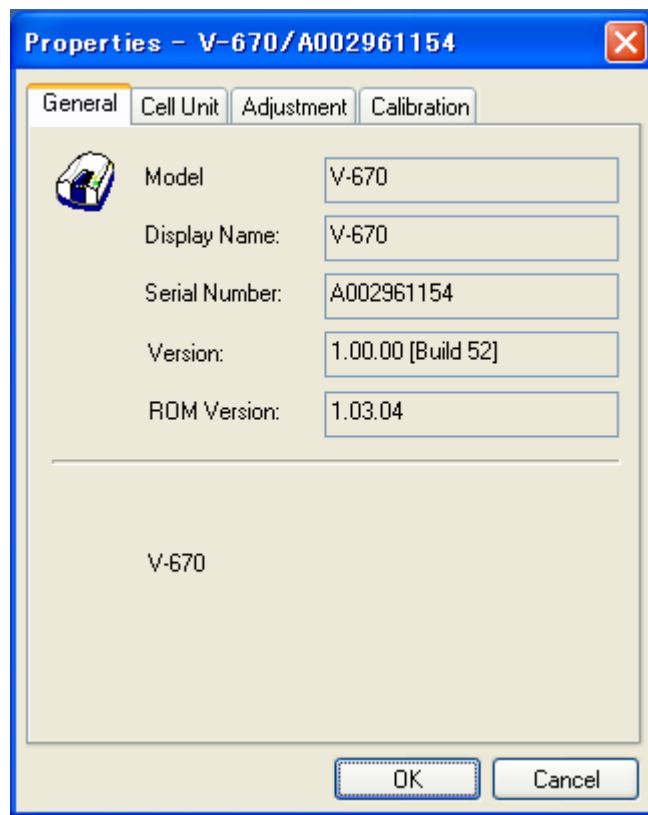

Figure 2.6 [Properties] Dialog, [General] tab
- (3) Restart the program and start administrative tools. Right-click on the registered instrument name and select “Properties” to display the window shown in Fig.2.6. First, check that the Model, Display Name, and Serial Number are displayed as below in the [General] tab.